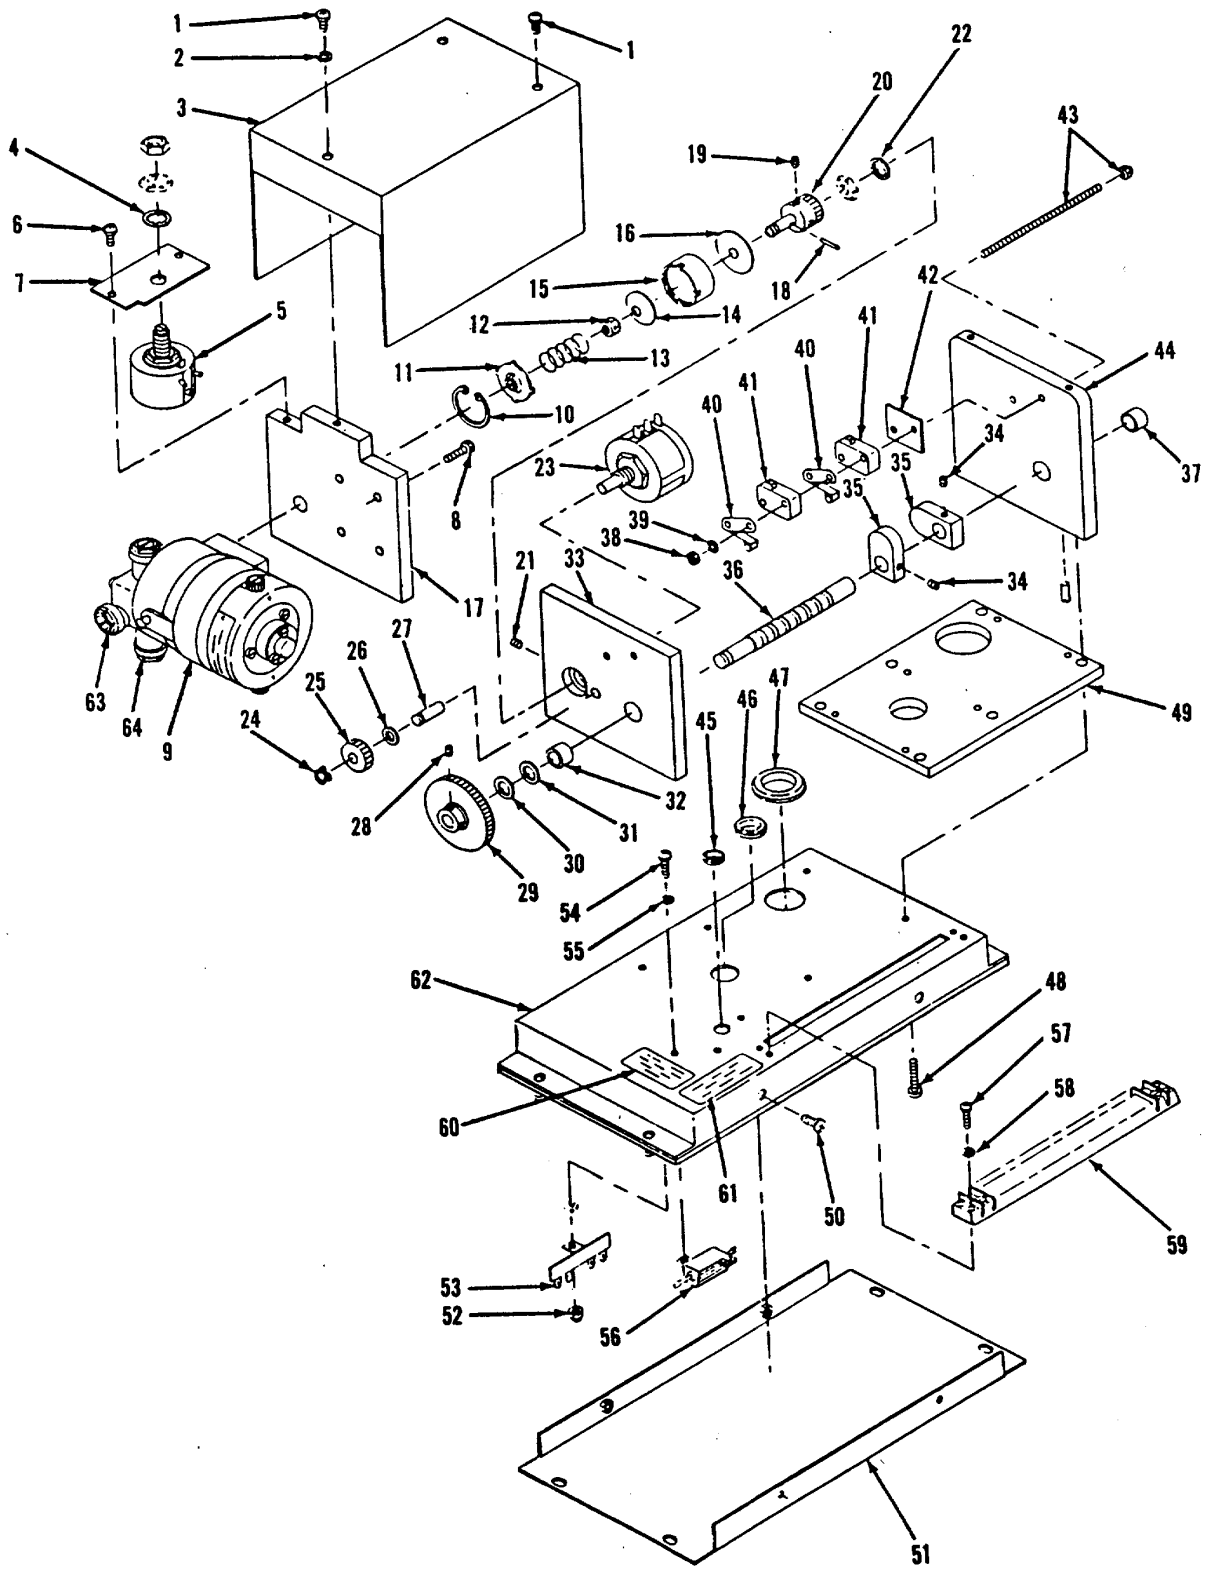

Figure 4-15. Motor Operated Potentiometer, Exploded View
- a. Replacement. The two motor operated potentiometers P4 and P5 (2 and 4, figure 4-10), are mounted on the component panel assembly (shelf) (43, figure 4-1) in the AC-DC control box assembly enclosure. Removal for either unit (P4 or P5) (figure 4-15), is as follows:
- (1) When motor M1 (9, figure 4-15) brushes are worn under 0.25 inch (6.4 mm) long, they must be replaced.
- (2) Remove cover (3) by moving three screws (1) and washers (2). Tighten setscrews (19) on gear assembly (20) and setscrews (28) on gear (29).
- (3) Adjust cams A and B in accordance with procedure in paragraph 4-26b (f) and (g).
- (a) With cover (3) removed, remove motor mounting plate (17) and motor (9) by removing two screws (8).
LEGEND FOR FIGURE 4-15
- (b) Remove retaining ring (10) friction cover (11) and spring (13). Elastic stop nut (12) is accessible for torque increase or decrease. Clutch assembly may be removed for torque adjustment by removing set screws (10).
- (b) Remove retaining ring (10) friction cover (11) and spring (13). Elastic stop nut (12) is accessible for torque increase or decrease. Clutch assembly may be removed for torque adjustment by removing set screws (19).
- (4) Adjust clutch (16, figure 4-15) to  $20 \pm 5$  inch-ounce ( $0.15 \pm 0.15 \pm 0.04$  joules). Add shims if necessary to reduce looseness between motor shaft and clutch. Adjust torque with nut as shown in figure 4-18. Clutch assembly must be disassembled in accordance with figure 4-15 as follows: